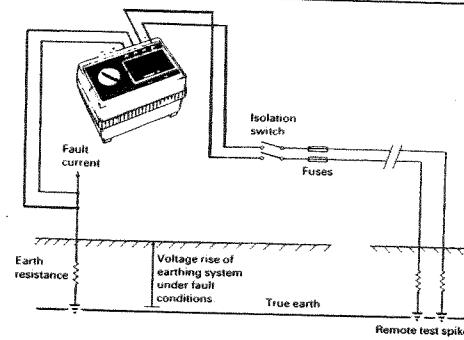

Fig. 3 A method of connection where fault conditions may occur
- h) If a fault occurs while a test is being made the instrument may be damaged. Incorporating fuses at the isolation switch, of rating 100 mA and able to cope with the maximum fault voltage, will provide some protection for the instrument (see Fig. 3).